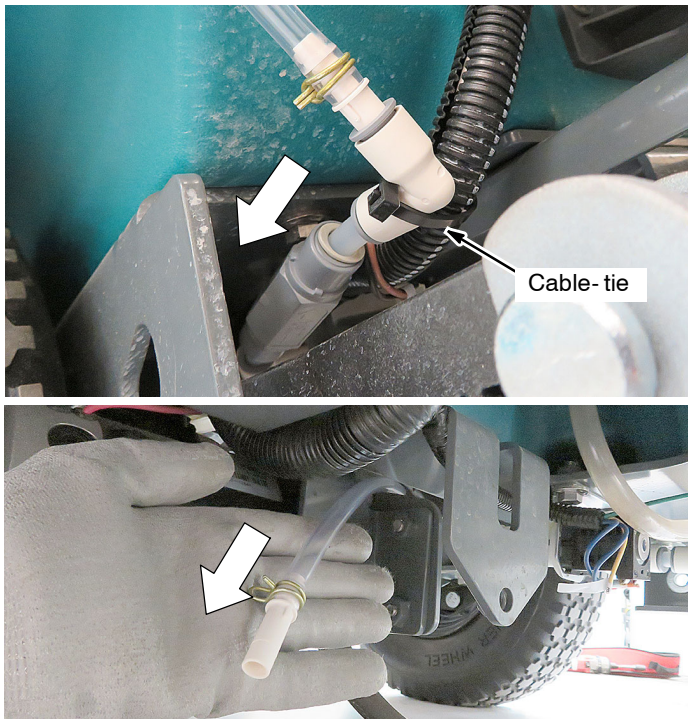

Fig. 20
19. Route the water conditioning pressure switch hose assembly towards the rear of the machine as shown (Figure 20). Secure the elbow fitting to the machine harness with cable-tie.